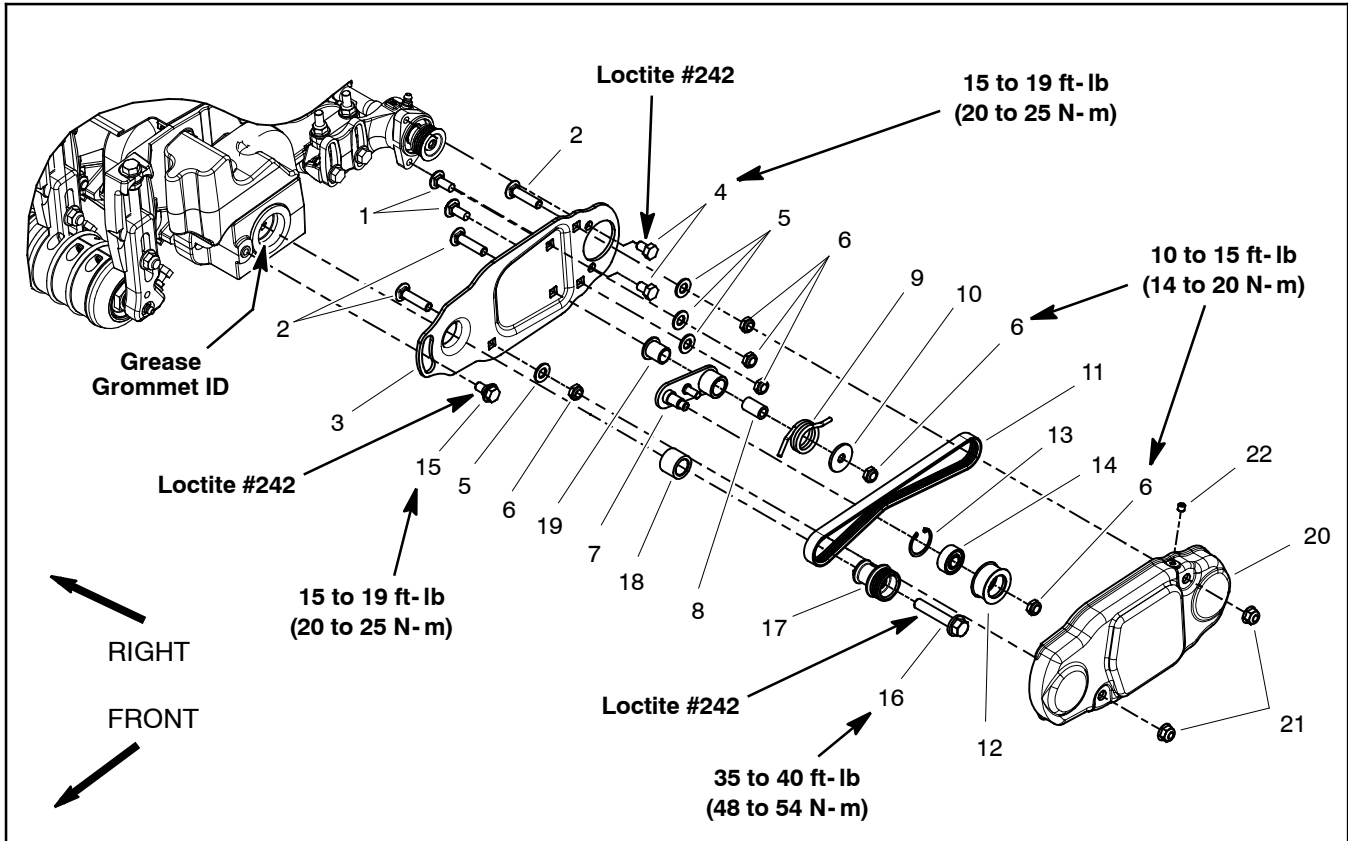

Figure 48
Disassembly (Fig. 48)
3. Remove cover (item 20) to access rear roller brush drive components.
4. Remove roller brush drive components as necessary using Figure 48 as a guide.
Assembly (Fig. 48)
C. Position housing to cutting unit side plate and secure to cutting unit with two (2) socket head screws.
2. Assemble roller brush components using Figure 48 as a guide.
A. During assembly, apply Loctite #242 (or equivalent) to threads of fasteners and torque fasteners as shown in Figure 48.
C. Brush plate should be installed so that idler pulley assembly is toward the bottom of the plate. Also, the shoulder bolt (item 15) should not clamp the brush plate to the drive housing during assembly.
D. When installing drive pulley (item 17), make sure that tabs on pulley engage slot in drive shaft.
E. Idler arm (item 7) should be free to rotate after assembly to brush plate. Make sure that idler spring is installed so that it can rotate the idler arm and pulley and apply tension to the drive belt.